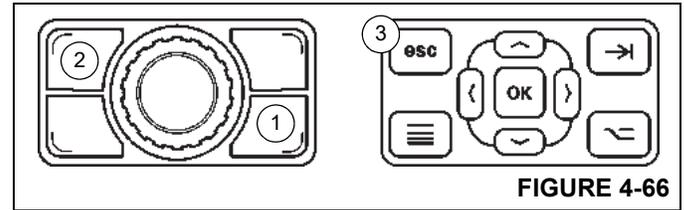

FIGURE 4-66
- Press the Screen Toggle Button (1, Figure 4-66) at the Jog Dial to select the ODM screen control, then press the Escape Button (2).
- Press the Escape Button (3, Figure 4-66) on the Navigation Control Pad at the ODM.